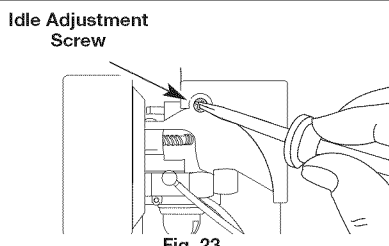

Fig. 23
The idle speed of the engine is adjustable. An idle adjustment screw is between the air filter cover and the engine starter housing (Fig. 23).
2. Release the throttle trigger and let the engine idle. If the engine stops, insert a small phillips in between the Air Filter Cover and the Engine Cover (Fig. 23). Turn the idle speed screw in, clockwise, 1/8 of a turn at a time (as needed) until the engine idles smoothly.